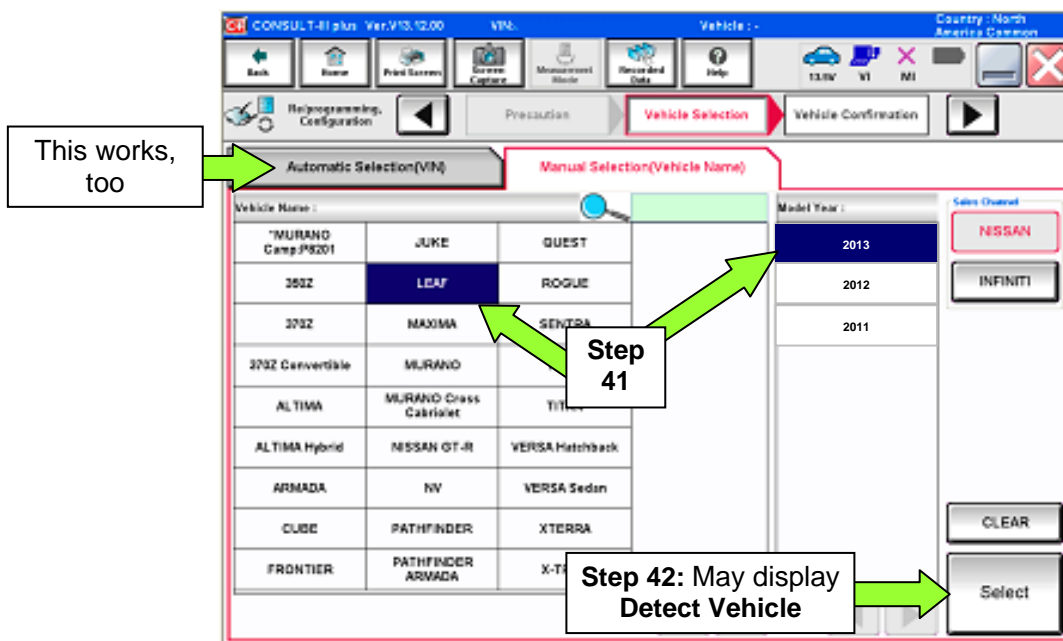

Figure 26
- If the screen in Figure 26 does not display, skip to step 43.